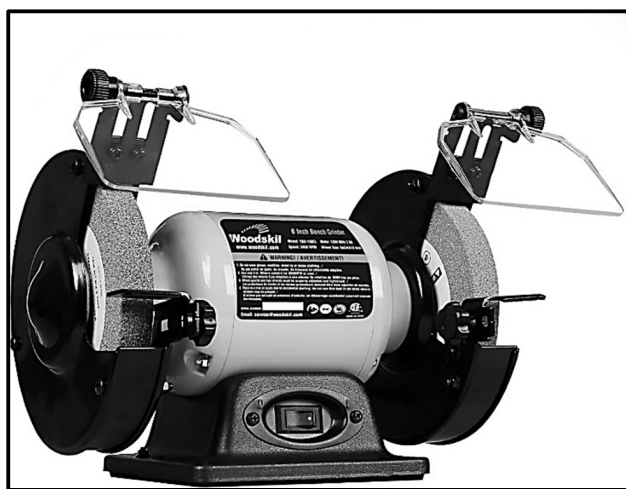

FIGURE 2.3
2.3 FIGURE 2.3 below shows a machine used in a mechanical workshop. Answer the questions that follow.
2.3.1	Identify the machine shown in FIGURE 2.3.